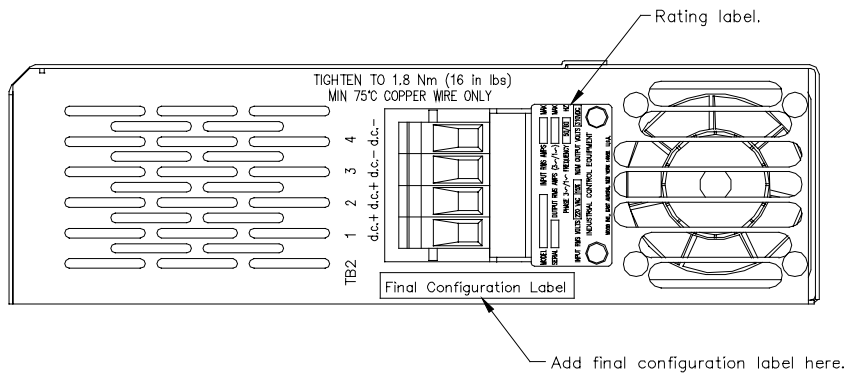

FIGURE 2.12 Final Configuration Label Mounting Location
3. Place the supplied Final Configuration Label along the bottom of the housing beside TB2 as shown in FIGURE 2.12.